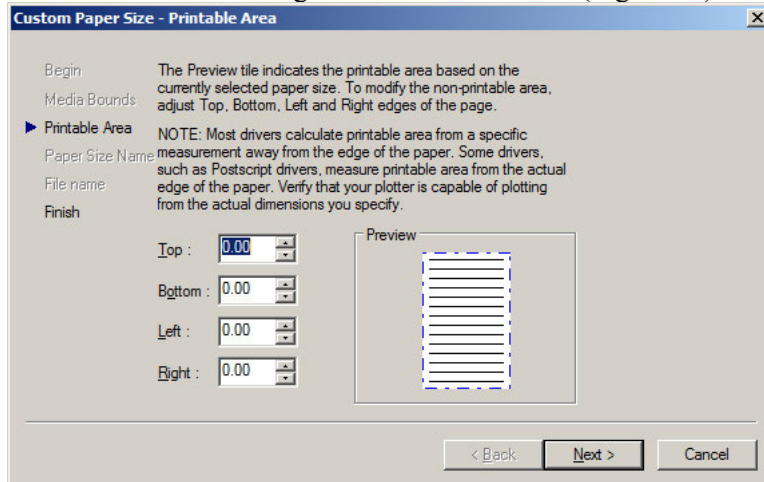

Figure 42-Modify Standard Paper Sizes
- a. Click Modify Standard Paper Sizes (Printable Area). Scroll down the list until you find ANSI full bleed. There are two listings for each paper size (one landscape and one portrait). Starting with ANSI full bleed D (34.00 x 22.00 Inches), highlight the paper size and click the "Modify" button. This brings up Figure 42. Set all values to 0.00 and click "Next" then click "Finish."